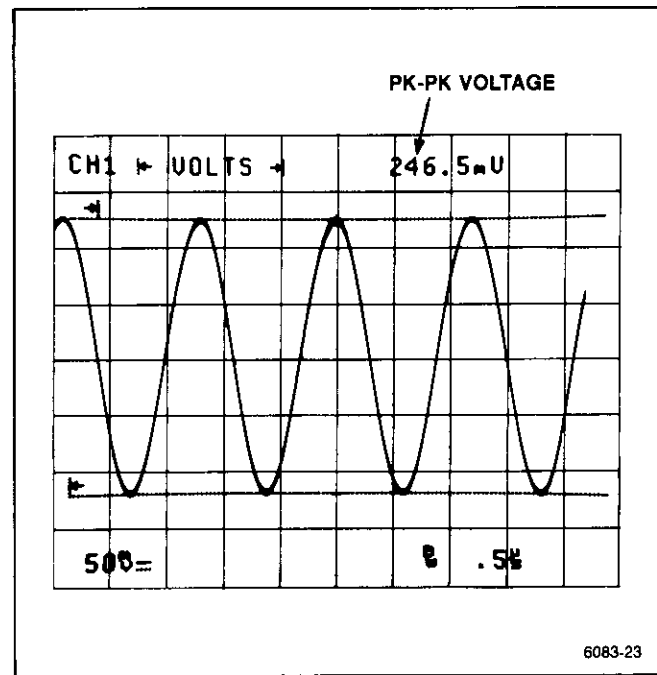

Figure 6-9. Voltage difference measurement using cursors.
2. Press the CURSORS button to display the measurement selection menu and select the I- VOLTS -I cursors. The Voltage cursors are initialized to the peak-to-peak levels of the lowest numbered displayed channel of either CH 1 or CH 2 (see Figure 6-9).